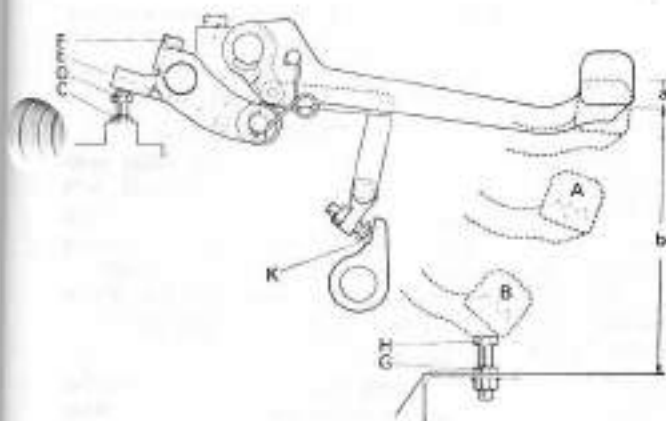

Fig. 88 — View showing adjustment points for clutch and clutch stop linkage on models 780 and 3800. Refer to paragraph 131 for adjustment procedure.
131. Clutch pedal free play (A—Fig. 88) should be $\frac{3}{4}$ to 1 inch. When free play is taken up, pedal pad should be a distance (B) of $7\frac{1}{4}$ to 10 inches from foot rest. With pedal up (fully released), there should be $1/16$ -inch clearance (K) between clutch brake shaft lever and head of adjusting screw.
The clutch pedal stop bolt (H—Fig. 88) on foot rest is normally adjusted to 9/16-inch and should not require readjustment from this position.